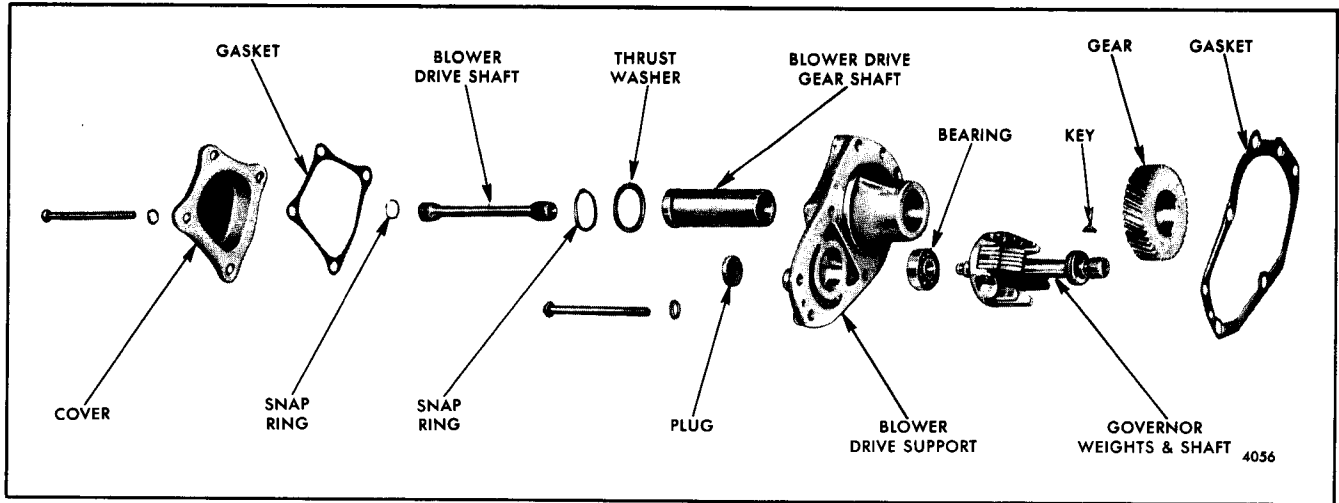

Fig. 12 - Blower Drive Support Assembly Details and Relative Location of Parts
1. Remove the snap ring and the thrust washer from the blower drive gear shaft (Fig. 12). Slide the shaft and gear from the blower drive support.